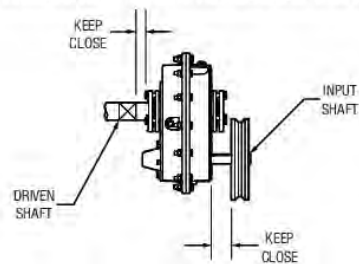

Figure 2 - Reducer and Sheave Installation
- Install sheave on input shaft as close to reducer as practical (Figure 2).